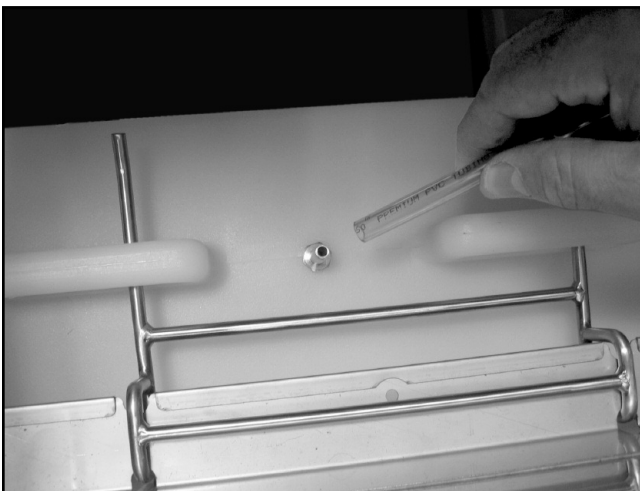

Fig. 52
12. Feed the air vent tube over the center divider and attach it to the brass fitting located at the top of the water tank. (Fig. 52 and 53).